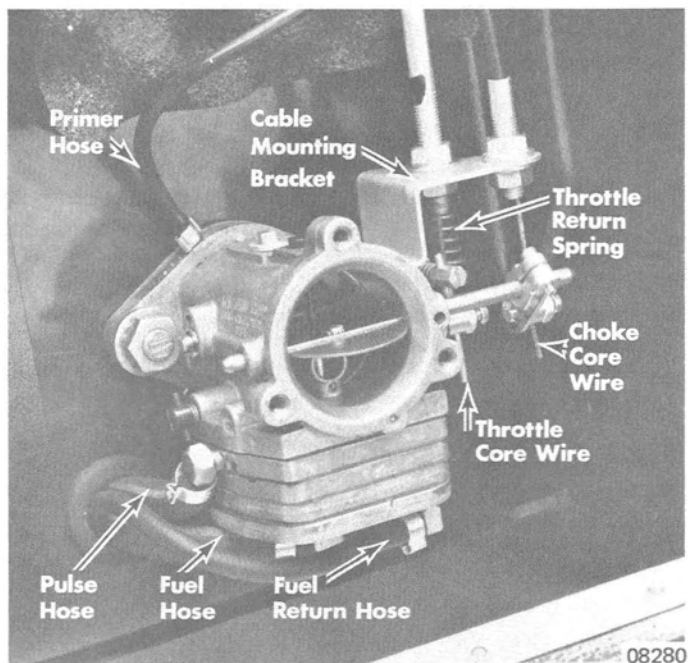

Figure 4. 440 MAX and 440 S/R Carburetor
2. Disconnect throttle and choke core wires from carburetor linkage. (Figure 4) Note location of throttle return spring around throttle core wire (if so equipped).
3. Remove operating cable mounting bracket (Figure 4) from carburetor and move assembly aside.
4. Disconnect primer hose (optional on 340 S/R), pulse hose, fuel hose and fuel return hose from carburetor. (Figure 4)